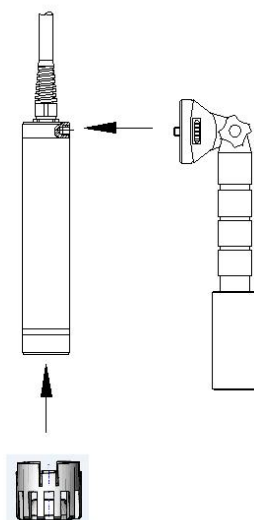

Figure 3
2. Connect the measurement probe to the swing rod and tighten it. Then, put the protective cover over the measurement probe until the probe is firmly locked in place (as shown in Figure 3).